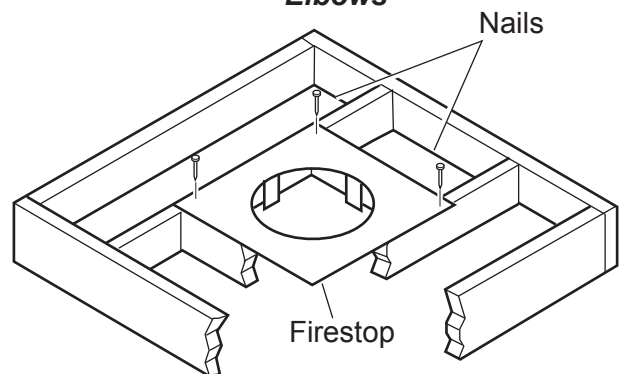
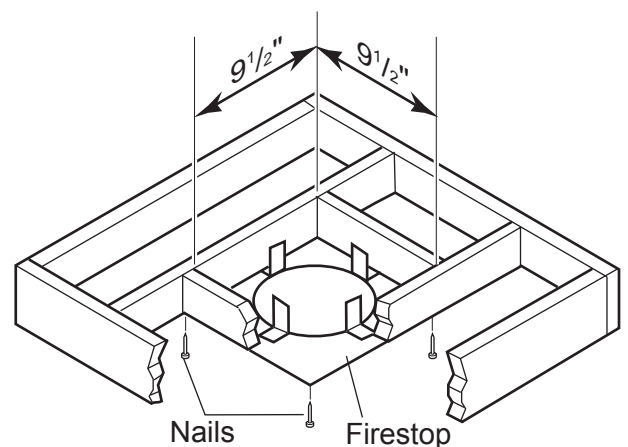

Figure 23 - If area above is a room, install firestop above framed hole as shown
Figure 24 - If area above is not a room, install firestop below framed hole as shown
1. Cut a 9 $\frac{1}{2}$ " (241mm) square hole in the ceiling using the locating hole as a center point. The opening should be framed to 9 $\frac{1}{2}$ "x9 $\frac{1}{2}$ " (241mm x 241mm) inside dimensions as shown in *Figure 24* using framing lumber the same size as the ceiling joist. If the area above the ceiling is an insulated ceiling or a room, nail firestop from the top side. This prevents loose insulation from falling into the required clearance space. See *Figure 23*. Otherwise, install firestop below the framed hole. The firestop should be installed with no less than three nails per side. See *Figure 24*.